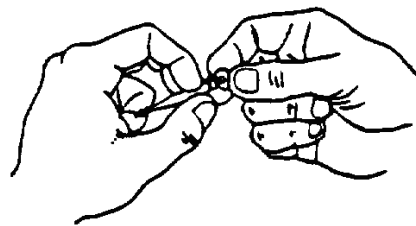

Figure 6-10. O-ring installation tools.
j. **O-Ring Installation Tools.** These tools enable you to make quick repairs in the field on most A-DEC miniature components. The three tools in this set fit the four smallest O-ring sizes in A-DEC equipment. Refer to figure 6-10.